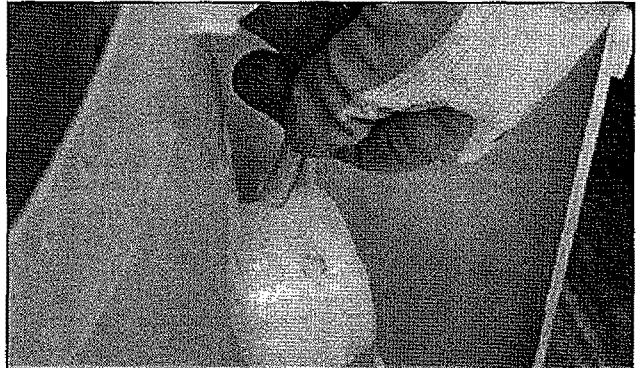

FIGURE 12
13. Unplug the Pressure Hose and remove from the tub. See Figure 12.